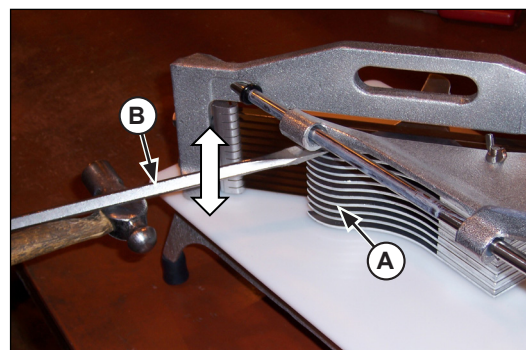

Figure 2. Pusher Head Adjustment Between the Blades.
2. It may also be necessary to adjust the Pusher Head Assembly (A) from the back side of the equipment, as well. If needed, carefully insert a screwdriver (B) between the slots in the Pusher Head Assembly. Gently tap on the screwdriver (B) (up or down) to alter the location of the Pusher Head Fingers so they slide effortlessly through the blades. See Figure 2.